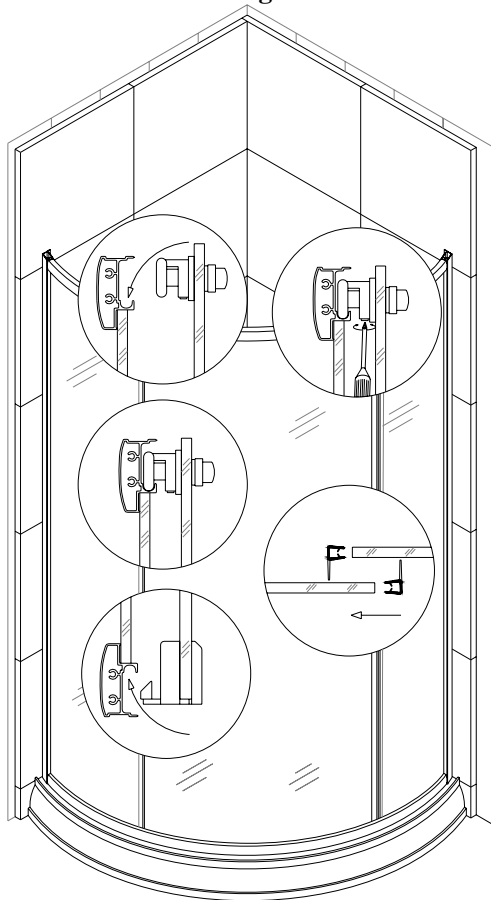
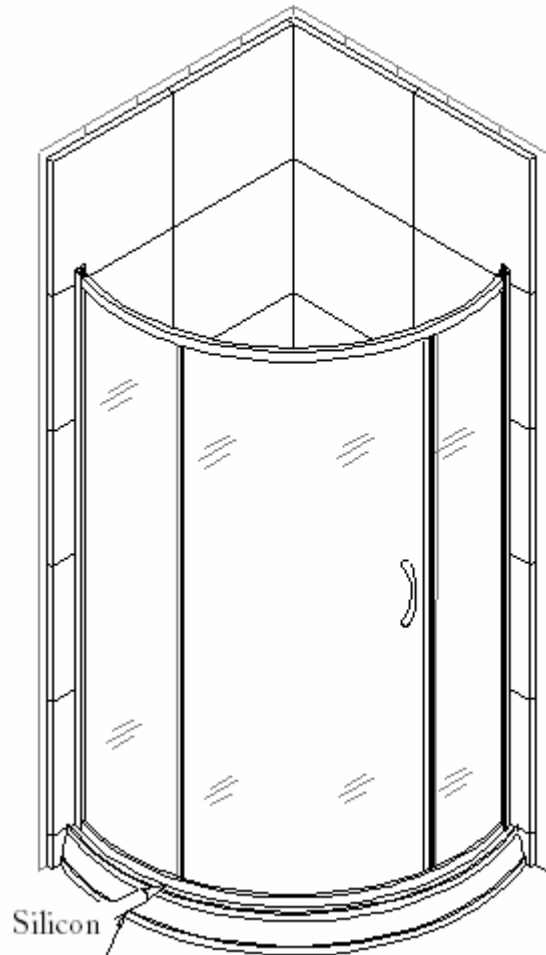

Fig 7
Fig 9
9. Install the Roller assemblies and the Hooks on the Glass door. Hang the Glass door on to guide rail (fig 7).
10. Hang the Hooks onto bottom guide rail (fig 7).
11. Adjust the Roller assembly bottom screw up and down to make the door moving smoothly (fig 7).
12. Install Handle (7) on The Glass door.
13. Install Waterproof flanged strip (8). One on the Stationary glass 1 (4) and another on the Glass door (on the side which is opposite of handles).
14. Seal with silicon between Wall profile, Glass Profile, bottom rail and tray (fig 9).